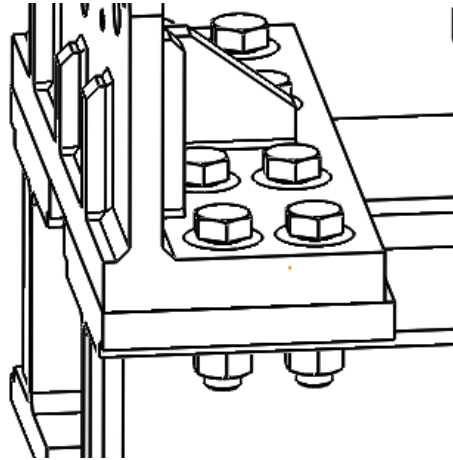

Figure 36 Tighten the eight Pedestal bolts
3. Insert, thread, and tighten the eight bolts (M27x180) to 785Nm (560ft-lb). See Figure 36.